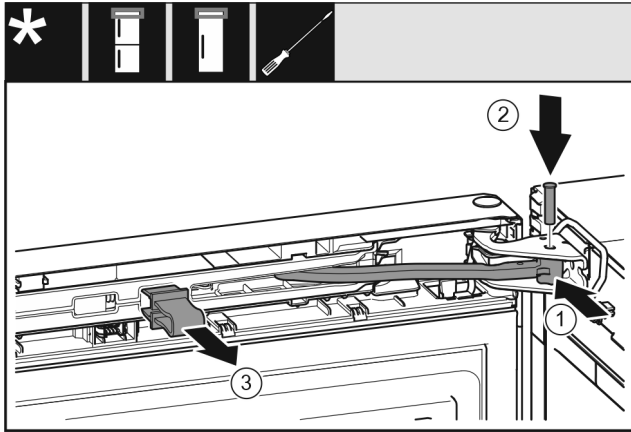

Fig. 25
- Turn the joint Fig. 25 (1) in the bearing block.
- Insert the bolt Fig. 25 (2) into the bearing bracket and joint. Ensure that the latching cam is in the groove properly.
- Remove the safeguard Fig. 25 (3).